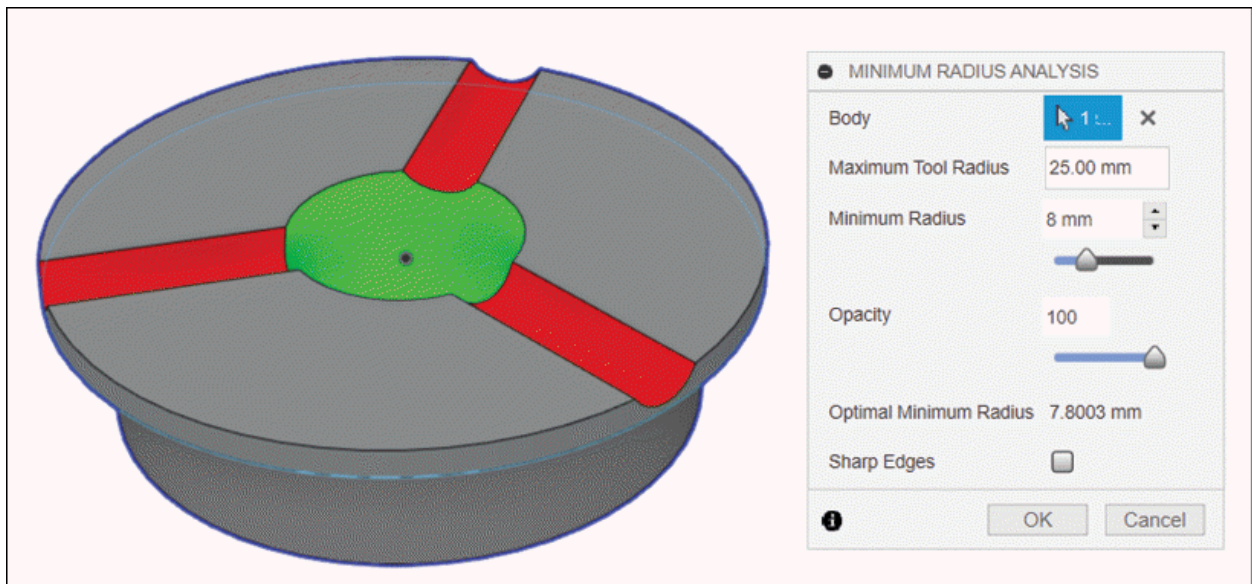

Figure-66. Minimum radius color
- After selecting the body, set the **Maximum Tool Radius** in the edit box for analysis of the model. For tool of **Minimum Radius 8**, the sections that can be machined are highlighted in green whereas sections with cannot be machined by 8 mm radius tool will be highlighted in red; refer to Figure-66.
- Note that software automatically calculates the optimum minimum radius of tool which can machine most of the sections of model in **Optimal Minimum Radius** field of the dialog box which is 7.8003 mm in our case; refer to Figure-66.